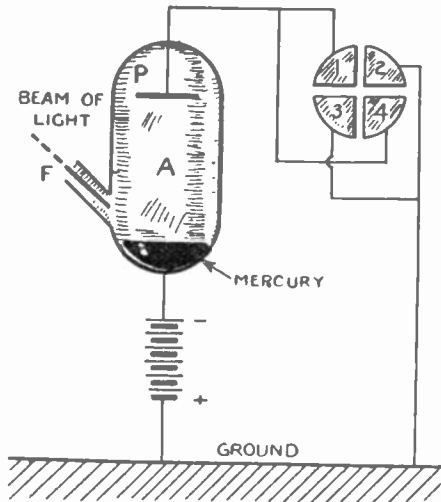

FIG. 1
its positive charge is measured by an electrometer, Fig. 1. In the second method a metallic plate faces at a little distance a second plate connected to the ground through a galvanometer, which measures the current strength resulting from the transfer of electrons.
The apparatus shown in Fig. 1 is used for studying the laws which govern the effect. In a bulb (A) which has been pumped out, there is some mercury or other metal to be studied resting upon the lower part of the bulb, forming a cathode. It receives light through an aperture (F) closed by quartz in certain experiments. A plate (P) acts as anode and catches the electrons emitted by the cathode. It is connected to one pair of quadrants (1 and 3) of an electrometer, whose other quadrants (2 and 4) are grounded.